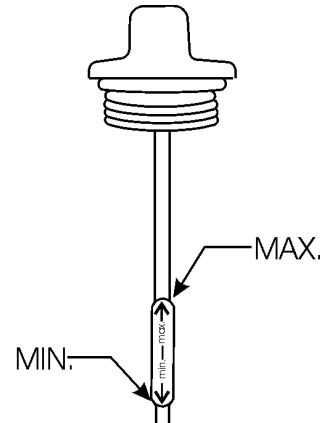

Figure 6. Engine Oil Dipstick (Oil Level)
4. If the oil level is low (See Figure 6), fill to the edge of the oil filler hole with the recommended oil type (Table 5). Maximum oil capacity is 0.95 quarts (0.9 liters).